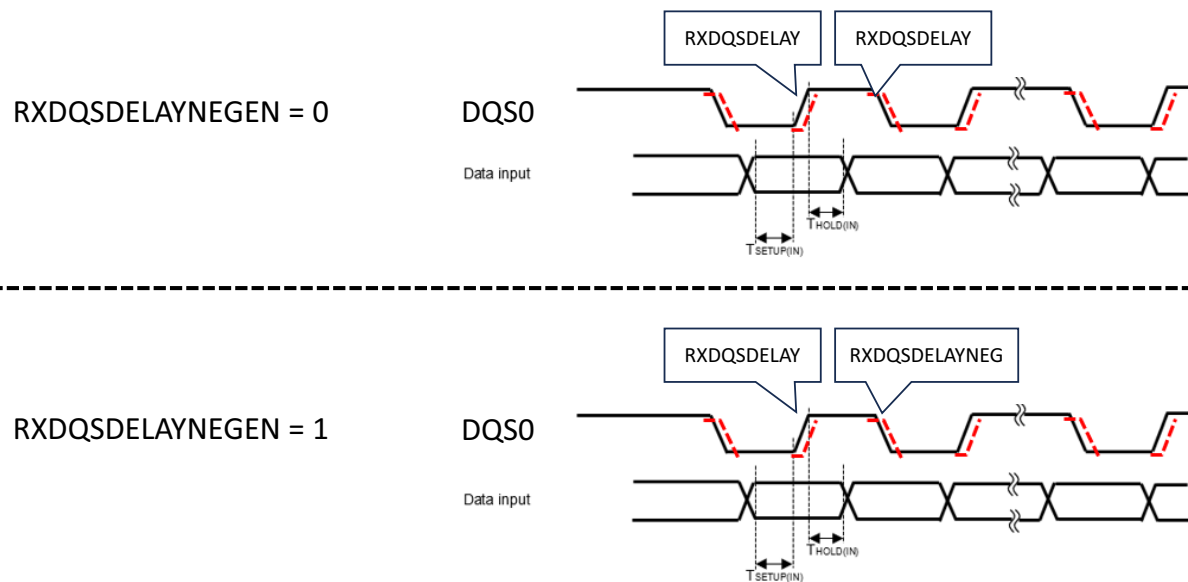

**Figure 23. Octal/Hex DDR Mode with DQS - Read Delay Lines - Lower Data Byte DQS**
Figure 23 shows DQS0 delay parameters in Octal/Hex DDR Mode with DQS, with respect to the input (RX) data byte (lower data byte for Hex) when  $RXDQSDELAYNEGEN = 0$  and when  $RXDQSDELAYNEGEN = 1$ . See the fields in the  $DEVnDDR$  register which set these parameters.